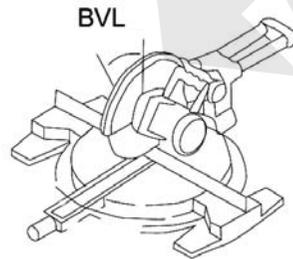

Fig.7
---Set the BLV value on the cutting machine to make a longitudinal oblique cutting (Fig.7)